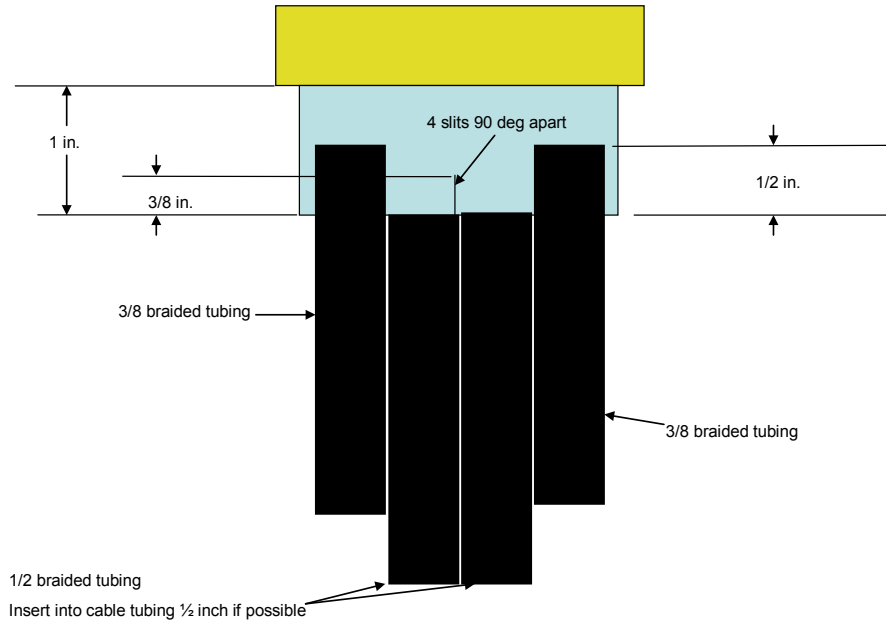

Figure 1
Step 3: Install the first four pieces of braided tubing over the appropriate fiber ribbon bundles. The 5-inch piece of $\frac{3}{8}$ -inch tubing is placed on the 24-fiber ribbons with 12-fiber ribbons numbered 1 through 12. Make sure the two $\frac{3}{8}$ -inch diameter outside braided tubes are pushed up into the cable central fiber tube (Figure 1) approximately $\frac{1}{2}$ inch. Insert the two $\frac{1}{2}$ -inch braided tubes into the central fiber tube the same $\frac{1}{2}$ inch. Be sure to start with the 15-inch braided tubing for the second bundle (12-fiber ribbons 13 – 36) and the 38-inch piece of braided tubing for the third bundle (12-fiber ribbons 37 – 60). Do not shrink the 34mm heat-shrink tubing yet because there is limited room for the next step.